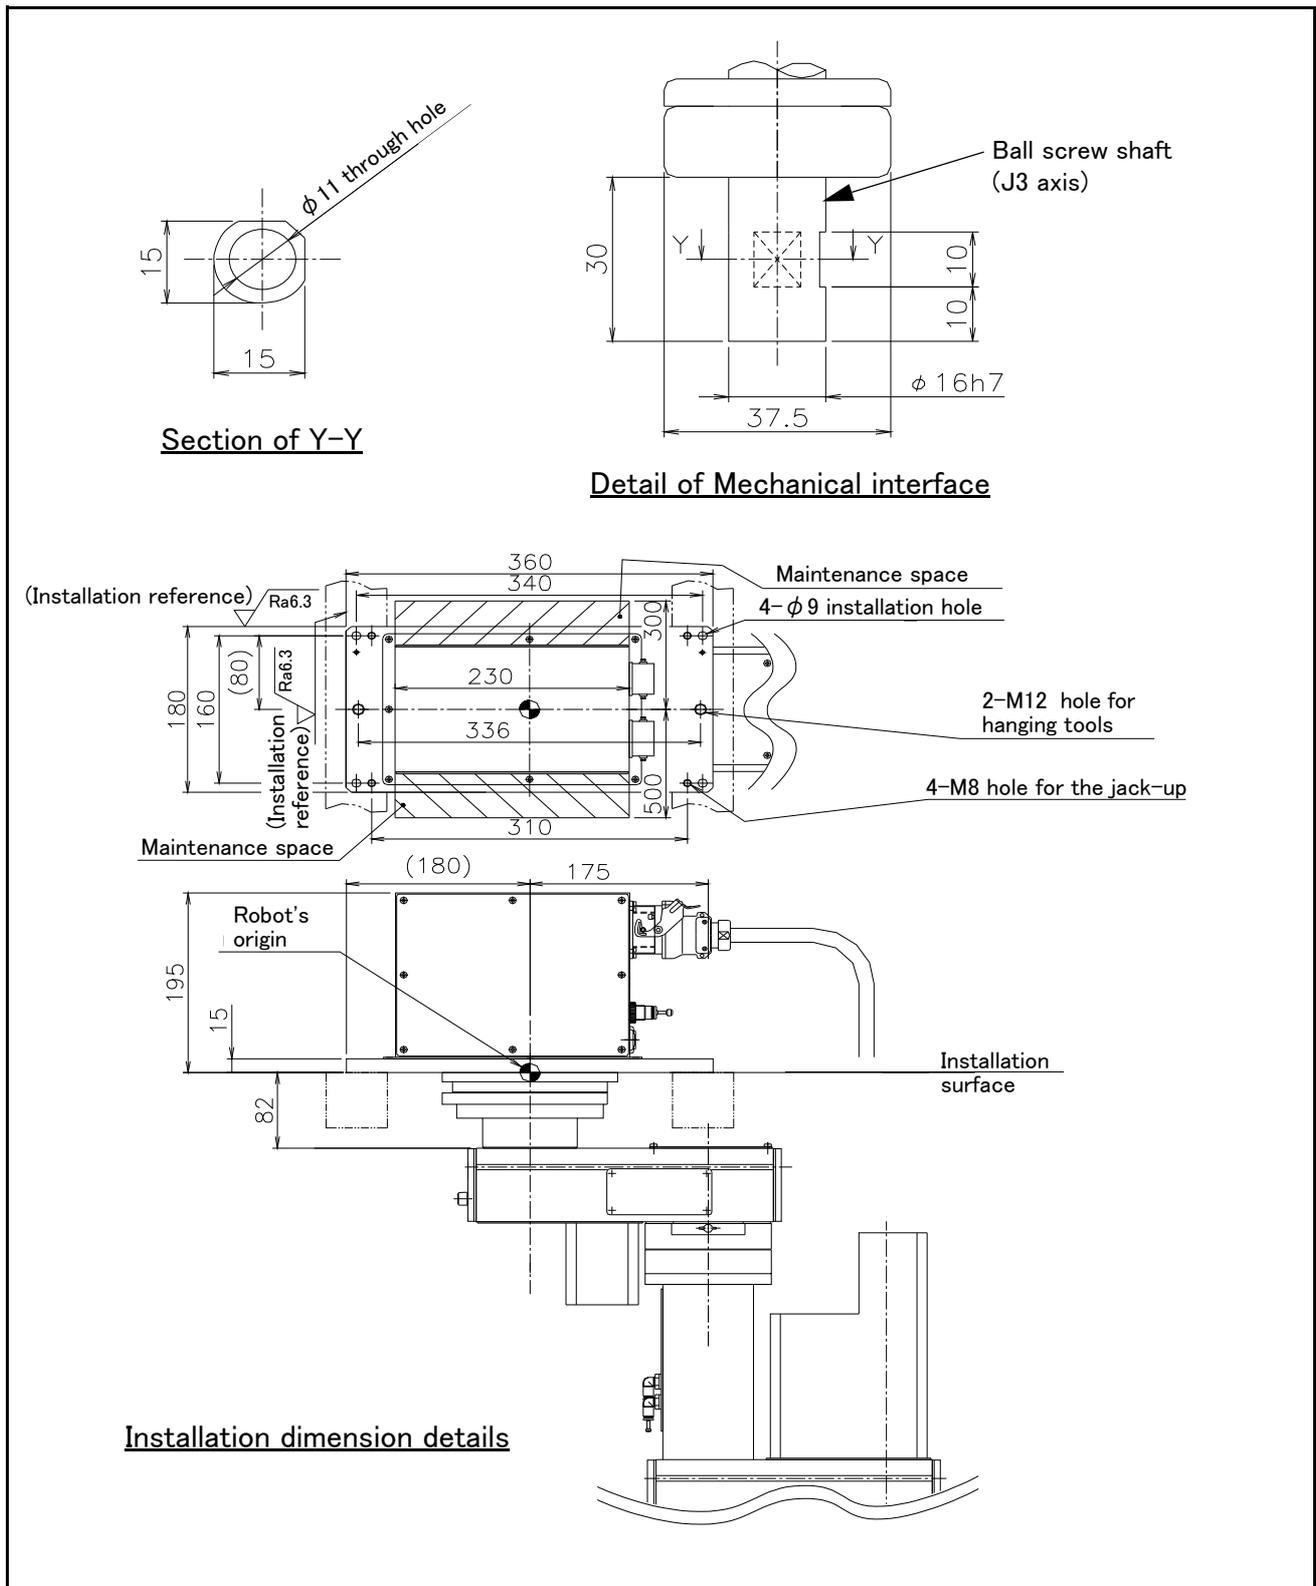

Fig.2-55 : Mechanical interface and Installation surface of RH-3FHR series (Standard specification)
- Note2) Refer to Fig. 2-55 for the mechanical interface section and installation base section dimensions.